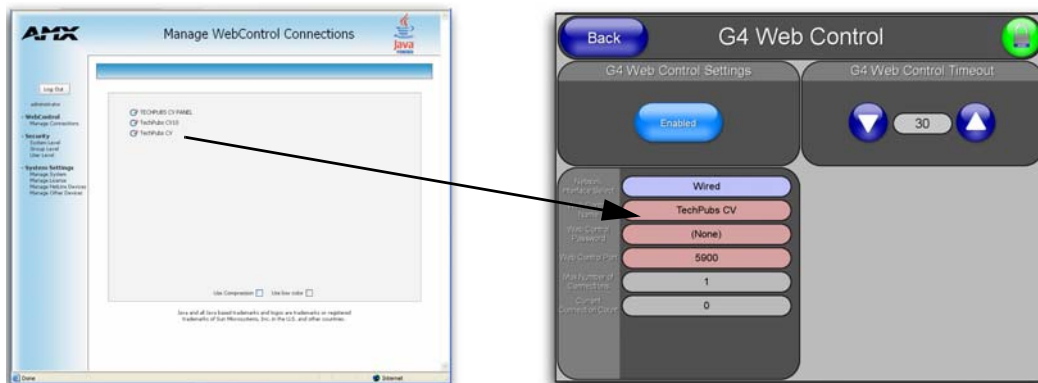

FIG. 68 Sample relationship between G4 Web Control and Manage WebControl Connections window
9. From the Web Name keyboard, enter a unique alpha-numeric string to identify this panel. This information is used by the NetLinX Security Web Server to display on-screen links to the panel. *The on-screen links use the IP Address of the panel and not the name for communication (FIG. 68).*